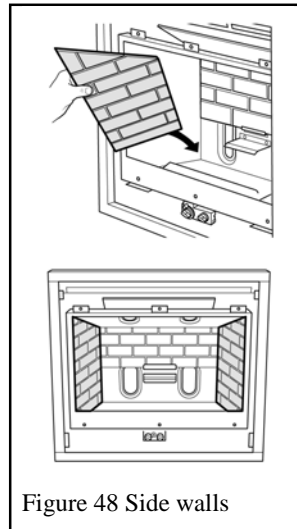

Figure 48 Side walls
2. Locate the side walls against the sides of the firebox. Make sure that they are behind the raised edges of the burner module base at the back corners. See figure 48.